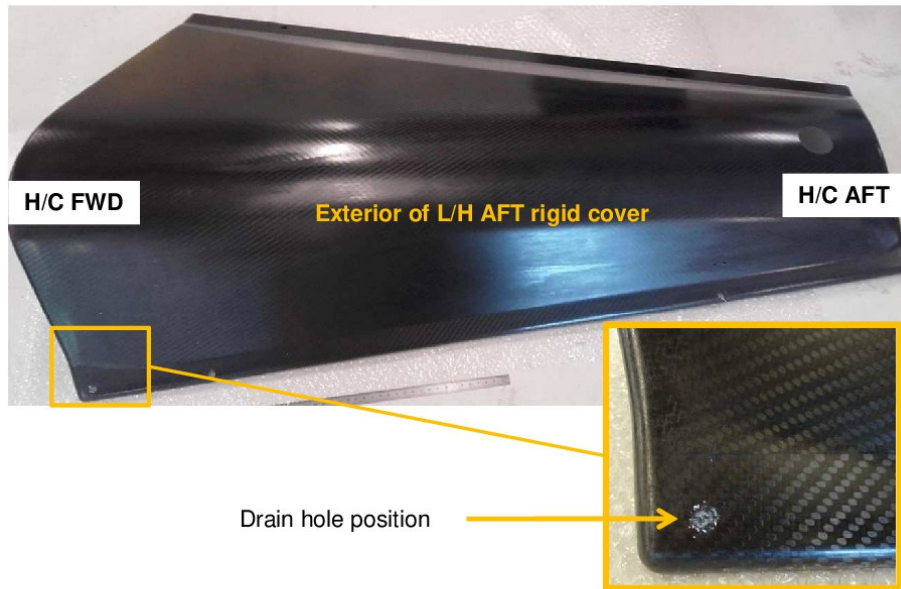
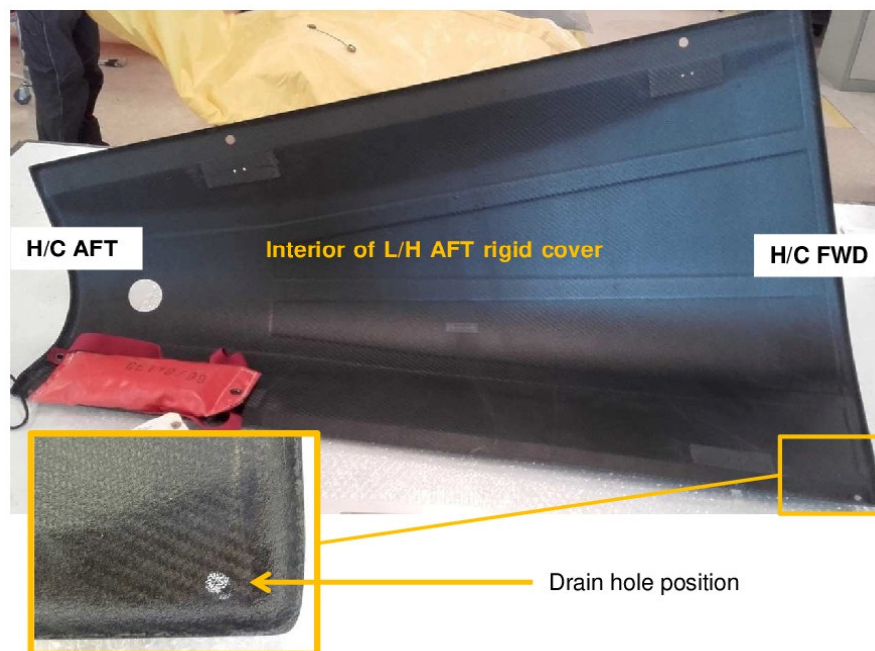

Figure 10 : L/H AFT rigid cover exterior view for drain hole positioning
Figure 11 : L/H AFT rigid cover interior view for drain hole positioning
3. Drill a 6mm hole in the left AFT rigid cover. Looking at the cover as shown in Figure 11, the centre of the hole shall be at 35 mm of the H/C FWD side of the cover edge and 15 mm of the bottom side of the cover edge, see figure 10, 11 & 12 drain hole positioning illustration. When installed on the helicopter, the hole shall be in the lowest part of aft rigid cover.